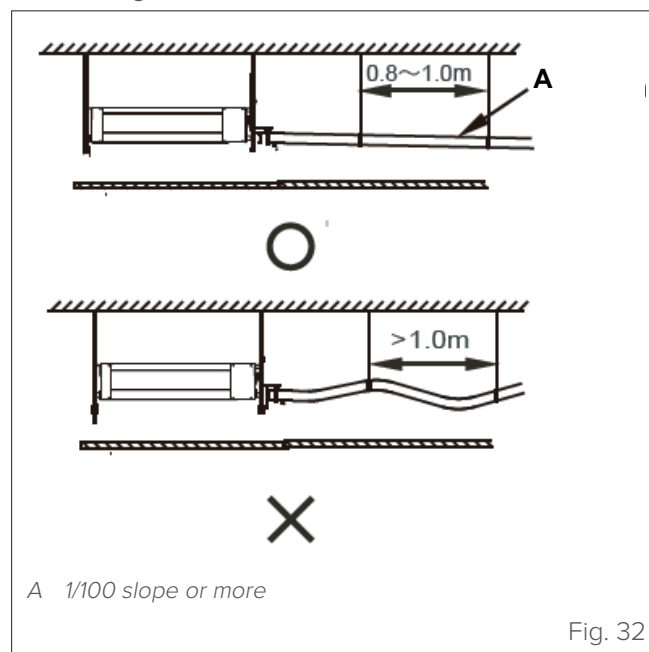

Fig. 32
- 3 In order to prevent water from flowing back into the air conditioner after the operation has been completed, the water drain pipe should be inclined outwards with a slope (drainage part) greater than 1/100. Ensure that the water drain pipe does not bulge or retain water. If it does, then it will be noisy. See "Fig. 32".
- 4 When connecting the water drain pipe, do not pull the intake pipes with force so that the connections do not come loose. At the same time, fit a support bracket every 0.8~1 metres to prevent the water drain pipes from bending. See "Fig. 32".